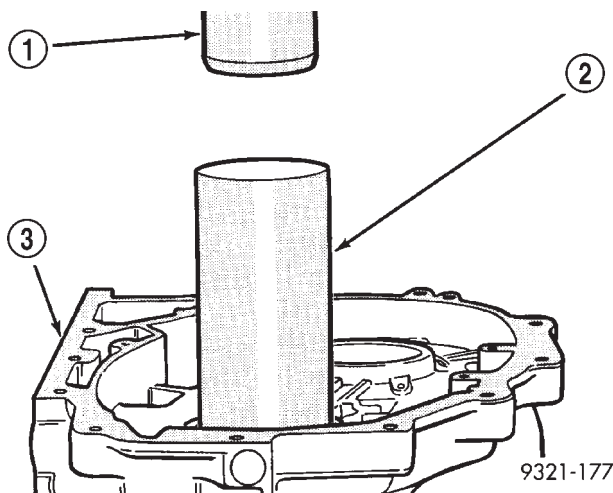

Fig. 415 Seal Installation
(37) Install seal with special tool 6567A (Fig. 415). Use a press to install seal. The installation tool will set the seal depth. Do not use a hammer to install seal. The seal may be damaged if installed with a hammer.